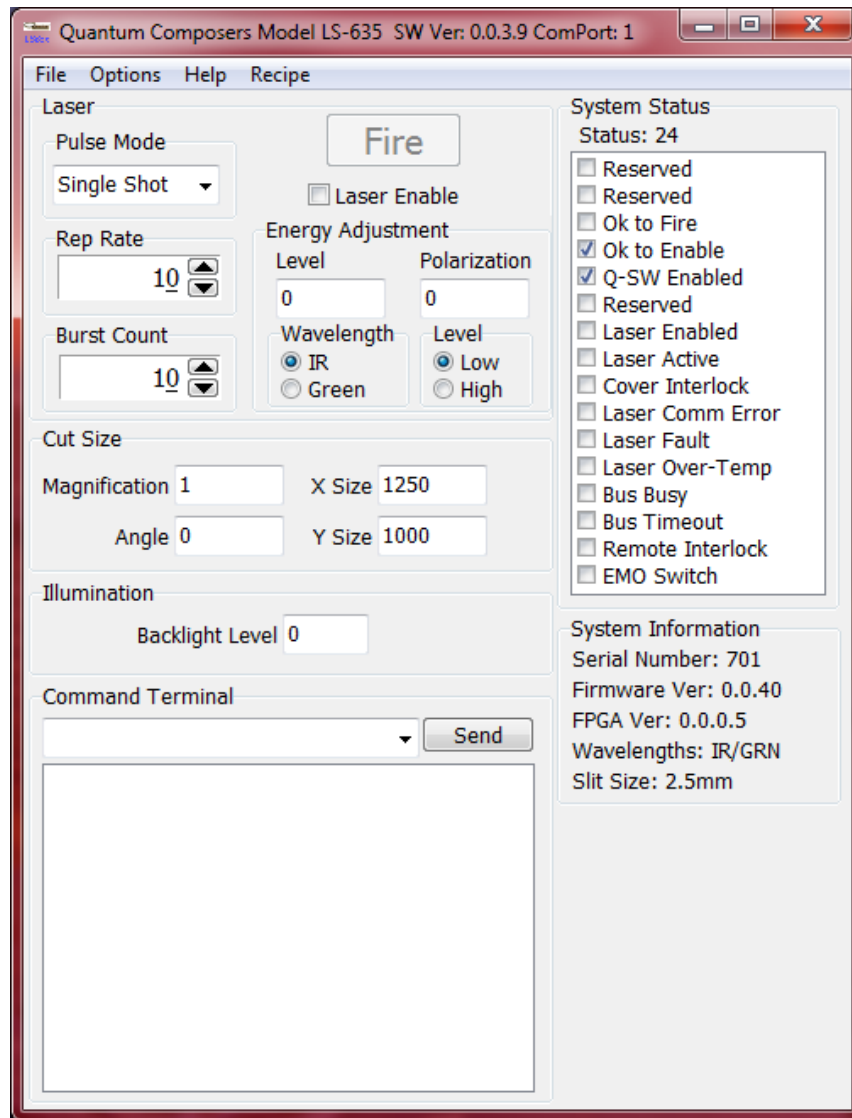

Figure 23 LS6xx Software Application Opening Screen
- The LS-635B application startup screen will be displayed as shown in Figure 23. This application has been designed as a graphical user interface for ease of use. There is a Command Terminal section that can be used as well in order to manually send and receive commands to the laser system. This area allows the user to enter a command and press Send or Enter key. The large area shows the command that was sent and the response. The large area also shows the commands and responses from controls in other portion of the Graphical User Interface (GUI).